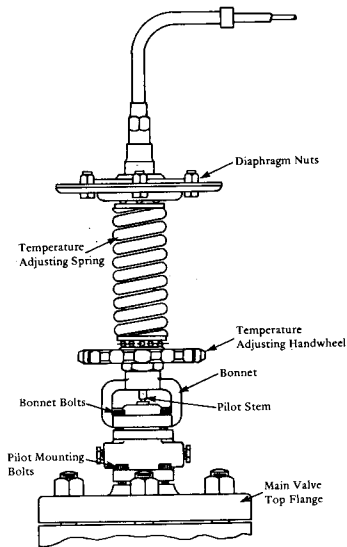

Fig. 3 - Type T14 Pilot
1. Remove protective covers from main valve top flange and pilot flange. Mount pilot to main valve as shown in Fig. 3.
2. Refer to Fig. 3. Back off temperature adjusting handwheel to remove all tension on temperature adjusting spring.
3. Remove diaphragm nuts (Fig. 3) and detach thermostat assembly from pilot. Similarly detach shipping plate from replacement thermostat.
- a. Remove bonnet bolts (Fig. 3) and remove top works.
2. Mark pilot steam where it emerges from the bonnet (Fig. 3).